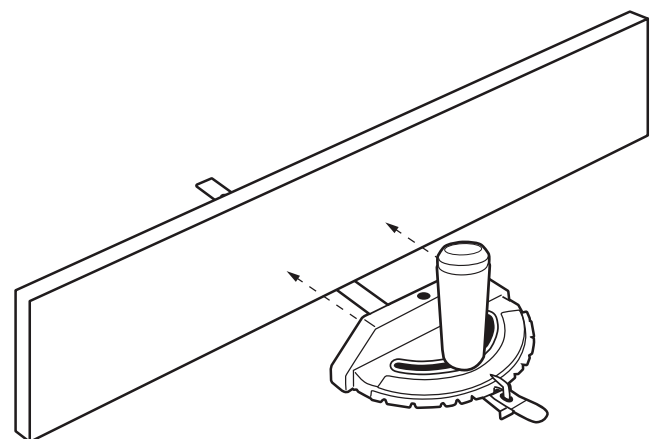

Figure 29
This auxiliary wood facing can be fastened to the front of the miter gauge by using (2) M6 or 1/4 20 flat head screws and nuts, placing the nuts into the slots provided in the face of the miter gauge body (Fig. 29).